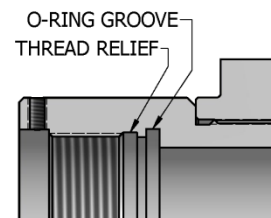
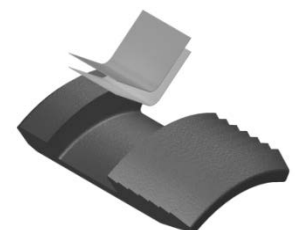

Fig. 2
Fig. 3
**CAUTION6:** To ensure tool operates properly, install o-rings in o-ring grooves **NOT** thread reliefs (Fig. 2).
- L-1) Clamp inner mandrel (2) in vise.
- L-1.1.1) Install upper slips (8), releasing slip (7), and upper slip springs (26) into upper slip body (6).
- NOTE7:** Uses two (2ea) springs per slip (Fig. 3).
- L-1.1.2) Install spring retainer ring (28) into upper slip body (6).
- L-1.1.3) Screw spring cage (5) into upper slip body (6).
- L-1.1.4) Wedge releasing slip (7) and upper slips (8) outwards. Install upper slip body assembly onto inner mandrel (2). Remove wedges.